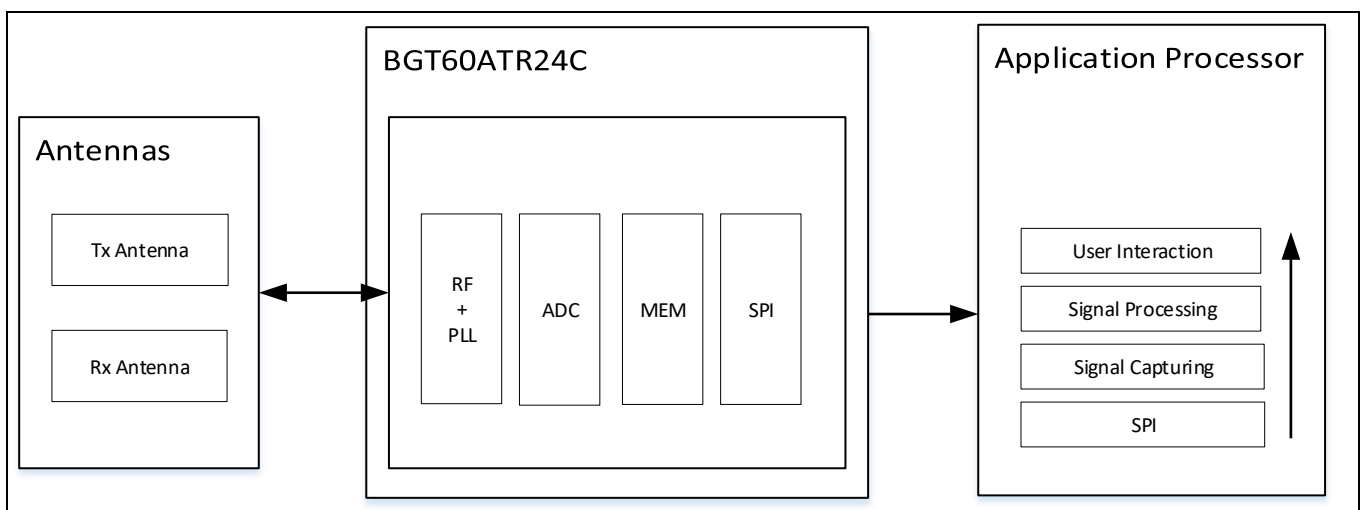

Figure 1 Data flow in the complete radar sensor system
The core functionality of BGT60ATR24C is to transmit frequency modulated continuous wave (FMCW) signal via one of the two transmitter channel (TX) and receive the echo signals from the target object on the four receiving channels (RX). Each receiver path includes a baseband filtering, a VGA, as well as an ADC. The digitized output is stored in a FIFO. The data are transferred to an external host, microcontroller unit (MCU) or application processor (AP), to run radar signal processing. A typical implementation of a sensor system consists of two main blocks only (see Figure 1):